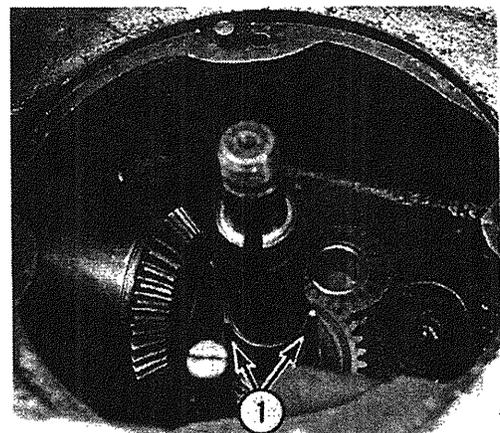

Fig. 3-29
- F. Install the two 3/16" x 3/16" x 1" keys in the keyways of the planetary shaft (1, Fig. 3-29).